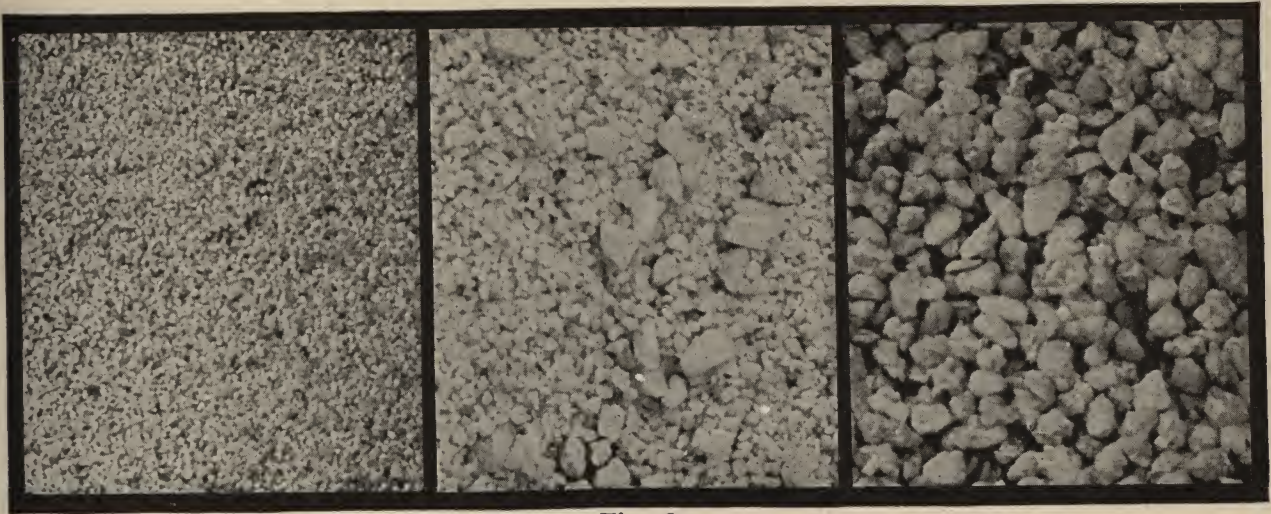

Fig. 2.
13. It is essential that the sand should be a mixture of fine and coarse particles—with more particles coarse than fine. There must be some finer particles because these smaller particles fit about and between the coarse particles, and fill in the empty spaces or voids between them. Figure 2 shows fine, coarse and graded sand in actual sizes. The graded sand in the center is best, because it contains both fine and coarse particles.